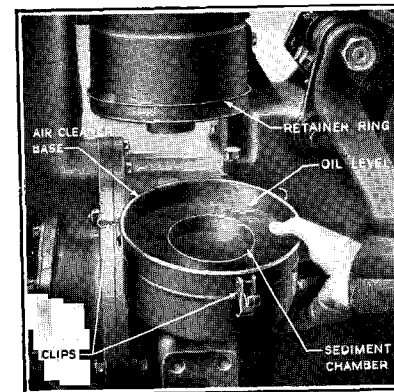

Figure 15
**Air Cleaner, Cylindrical Type.**—On later tractors having the cylindrical type air cleaner, release the three clips, remove the cleaner base and clean both inner and outer caps. Add clean engine oil to the level mark, see Fig. 15. If used in very dusty conditions, clean at more frequent intervals. Periodically attend to the Primary Air Cleaner, see page 33.